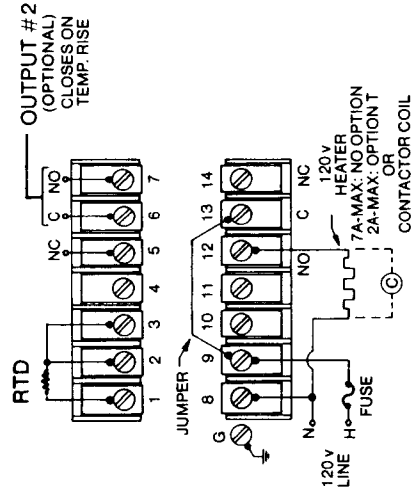

Figure 2-3. Wiring Diagram
Use Figure 2-3 for proper wiring. Shown for 840 W maximum 120 V ac heater (non-inductive load rating). For larger loads replace the heater with power contactor rated as required. The N.C. contacts can be used for cooling.
Use Figure 2-3 for proper wiring. Wiring is the same as the 4201A (No Options, 120 V ac). Solid State N.O. contacts are provided, with 2 amp continuous current rating and 10 amp in-rush.
- Use Figure 2-3 for 120 V ac. Note that Output 2 is rated at 3 amps (non-inductive load rating).